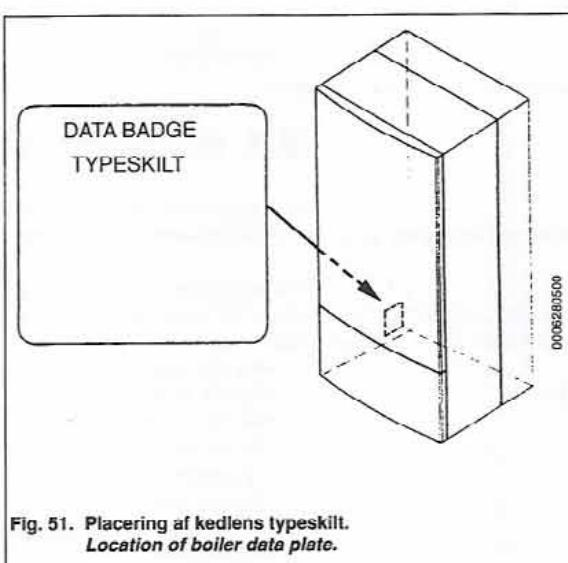

Fig. 51. Placering af kedlens typeskilt.
- a) Kontroller nøje at kedlen er korrekt tilsluttet i overensstemmelse med kedlens data for varmeanlæg og brugsvand. Kontroller endvidere at kedlen er korrekt tilsluttet i overensstemmelse med kedlens data for drift med den aktuelle gastype og elforbindelser herunder også jordforbindelse. Vedrørende yderligere detaljer læs beskrivelsen på emballagen og på kedlens egen typeskilt, der er placeret indvendig i kabinetet som vist (fig. 51);
- a) Carefully check that the boiler has been correctly connected in accordance with the boiler data for DIIW and the central heating system. Make sure also sure that the boiler has been correctly connected in accordance with the boiler data for operation with the existing electrical installation, including earthing, and on the type of gas which is used. For further details, refer to the description on the packaging and on the boiler data plate, which is placed inside the cabinet as shown in fig. 51;